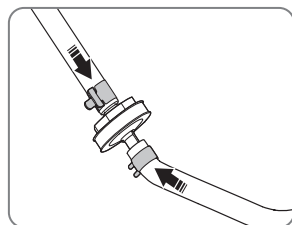

Fig. 40
6. Push the hose clips against the fuel filter (Fig. 40).